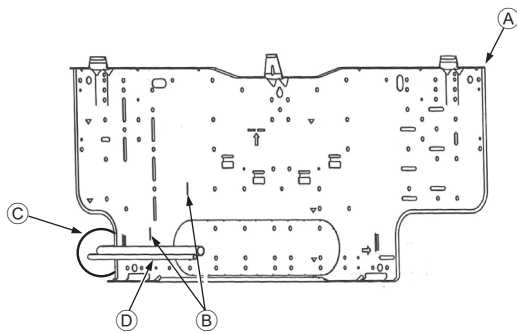

Fig. 3-5
- ② Fixing screws (4 × 35 mm, 1-3/8 inch) ②
- ② Level
- ② Fasten a thread to the hole.
- ② Place the level against the horizontal reference line of the mount board and mount so that it is level. Hang a weight from the thread and align with ▼ EPK of the mount board to permit leveling.
- ② Weight
- ② Mount board ②
3.3. When embedding pipes into the wall (Fig. 3-5)
- ▲ Mount board ②